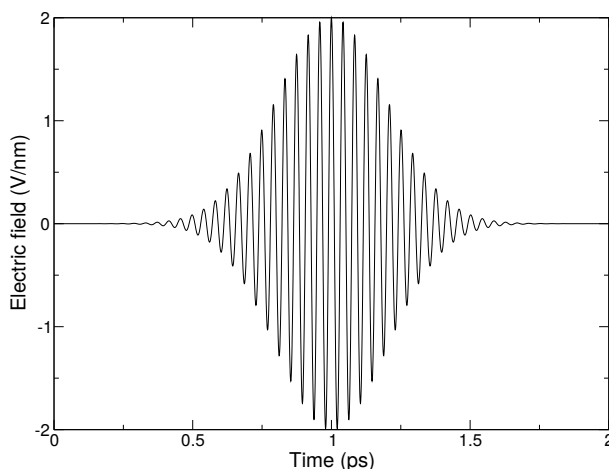

Fig. 5.48: A simulated laser pulse in GROMACS.
This simulated laser-pulse was applied to simulations of melting ice 146 (page 545). A pulsed electric field may look like Fig. 5.48. In the supporting information of that paper the impact of an applied electric field on a system under periodic boundary conditions is analyzed. It is described that the effective electric field under PBC is larger than the applied field, by a factor depending on the size of the box and the dielectric properties of molecules in the box. For a system with static dielectric properties this factor can be corrected for. But for a system where the dielectric varies over time, for example a membrane protein with a pore that opens and closes during the simulation, this way of applying an electric field is not useful. In such cases one can use the computational electrophysiology protocol described in the next section (sec. Computational Electrophysiology (page 487)).
yields an pulsed-oscillating electric field with  $E_0 = 2$  V/nm,  $\omega = 150$ /ps and  $t_0 = 5$  ps and  $\sigma = 1$  ps. Read more in ref. 146 (page 545). Note that the input file format is changed from the undocumented older version. A figure like Fig. 5.48 may be produced by passing the `-field` option to *gmxdrun* (page 186).